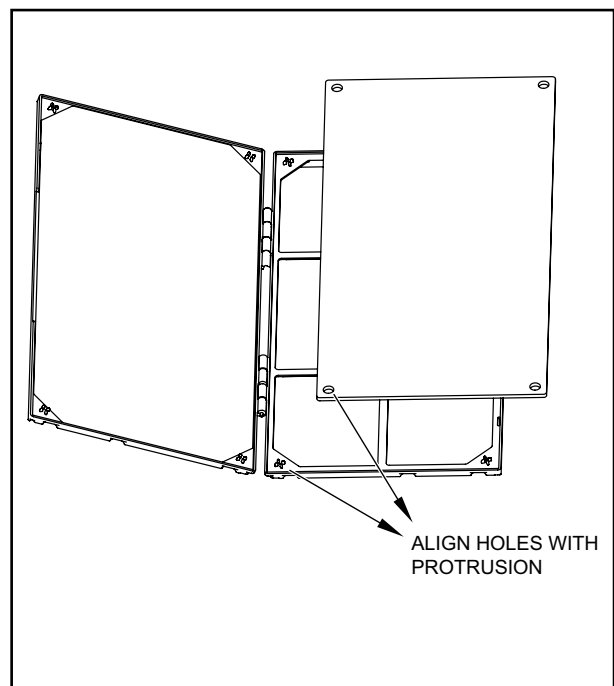

Figure 406
3. If you already have a carbon filter installed remove the dirty filter by laying the filter down and swinging open the front frame as shown in Figure 406.
4. Place the new carbon filter on the top of the back filter frame. The carbon filter has been cut to the correct dimension and should fit within the frame as shown in Figure 406.